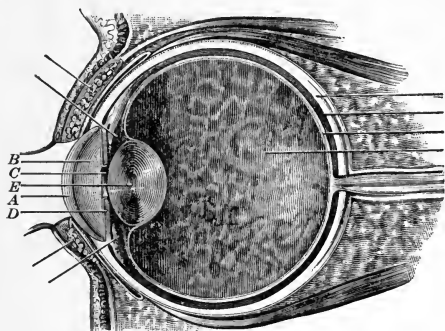

FIG. 243.—A Section of the Human Eye.
**Experiment.**—Secure from the butcher the eyes from an ox, pig, or sheep. If possible get several specimens to use in case one is spoiled in dissection, and also that you may try different methods of preparing them for illustration. Place in water until ready for use. With the aid of Fig. 243 examine each part of the eye.